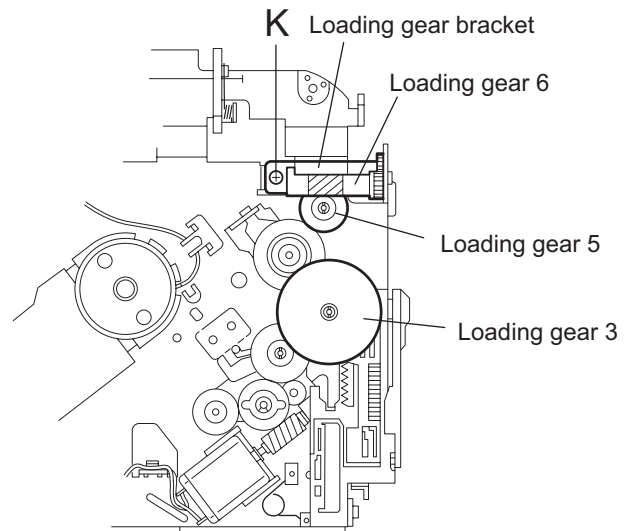

Fig.35
**(See Figs.35 and 36)**
- (1) Remove the screw **K** attaching the loading gear bracket.
- Pull out the loading gear 3. (See Fig.35.)
- (1) Pull out the feed gear.